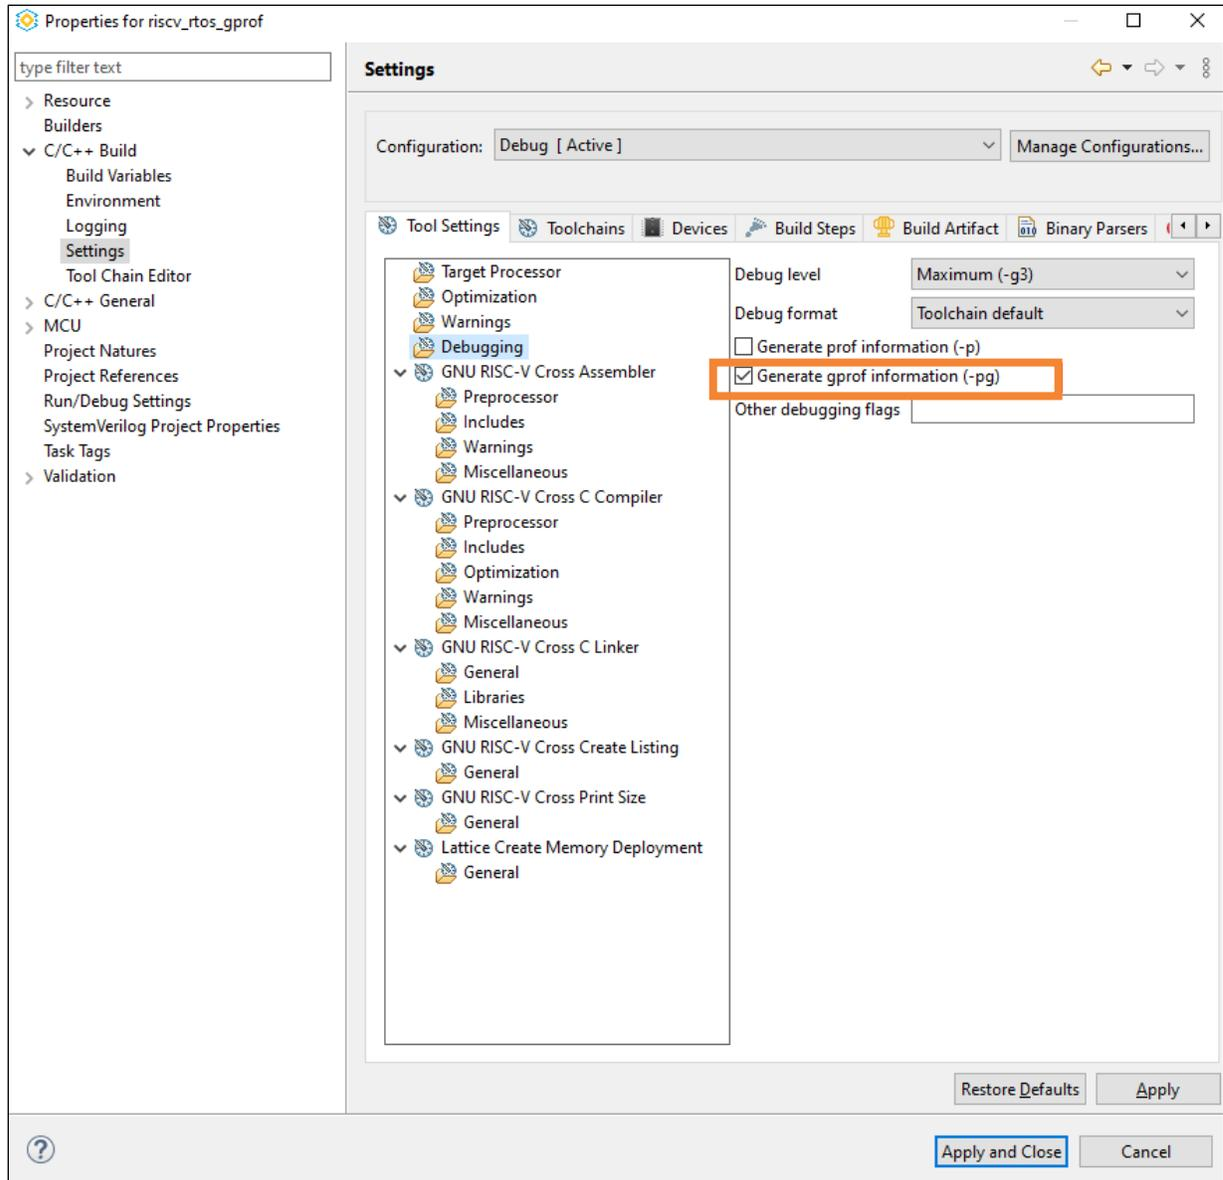

Figure 7.5. Generate gprof Information
3. Select **Debugging**. Enable the **Generate gprof information** checkbox (Figure 7.5).